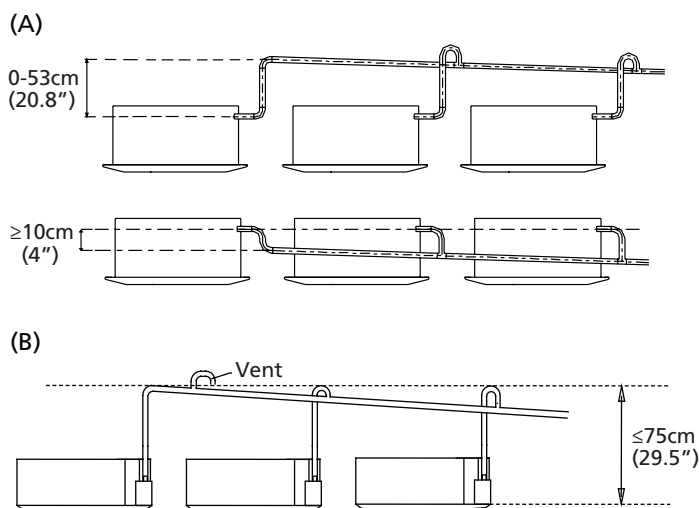

Fig. 5.4
**NOTA:** La conectarea conductelor multiple, respectati fig. 5.4